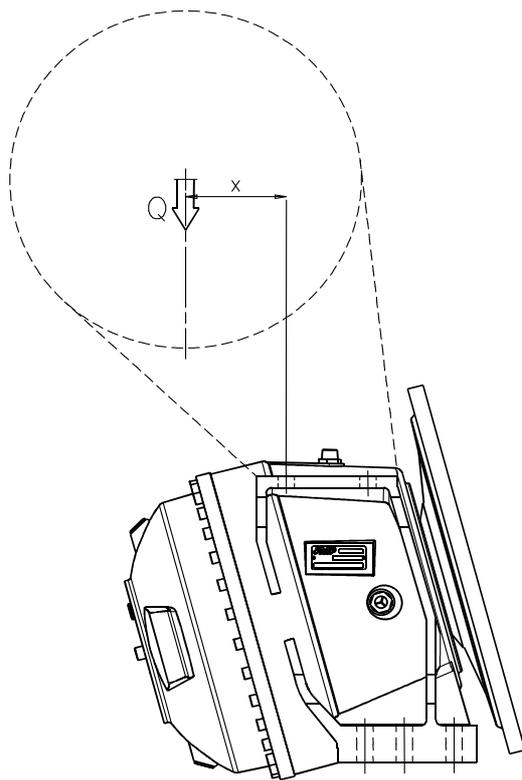

fig.21
For structural safety reasons, the mounting of the water tank must be done in accordance to the drawing (fig. 21) and the indications of the graph below (fig. 22), which show the relation between the tank gross weight (Q) and its offset (X).